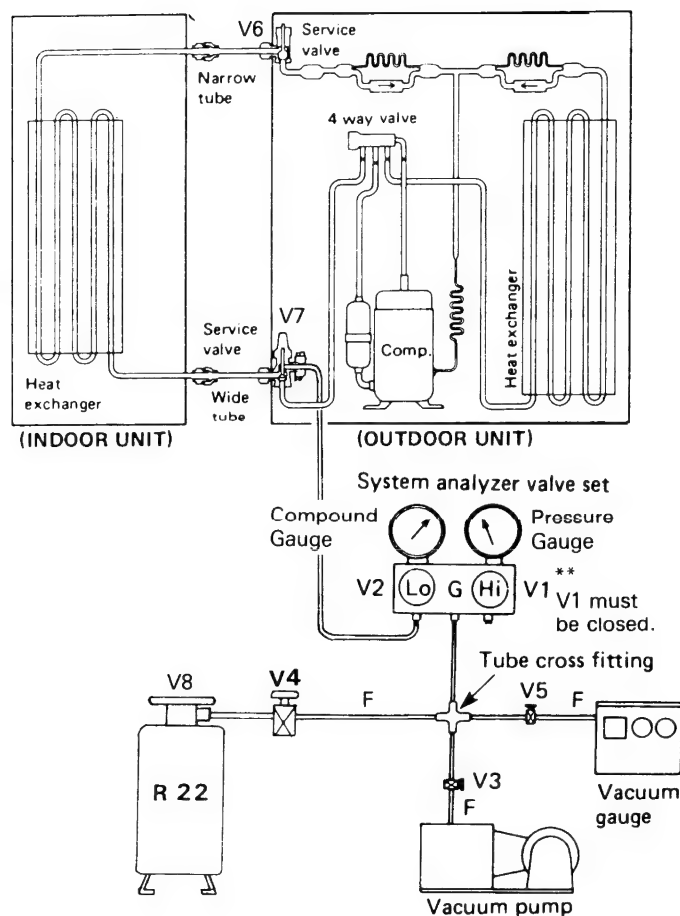

Fig.24
- 2) Confirm that both Narrow Tube and Wide Tube service valves on the outdoor unit **V6** and **V7** are fully opened, and other valves are still closed. (Refer to Fig. 24)
- 1) Connect instrument as in Fig. 24.